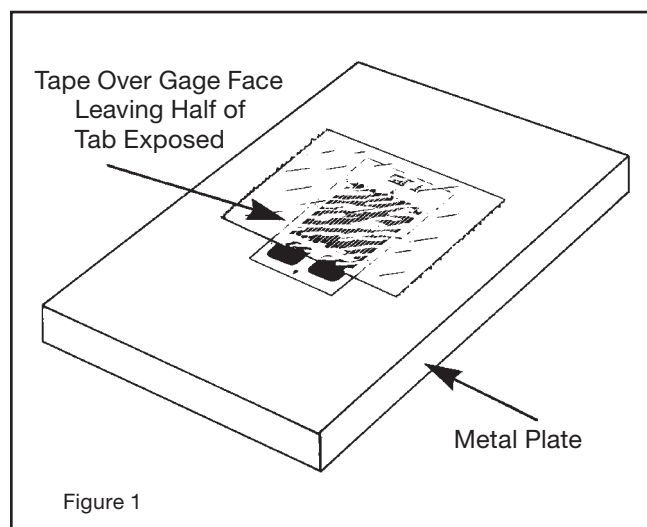

Figure 1
4. Press tape over gage and onto work surface (Figure 1). If the gage does not have good thermal contact with the surface, a weight can be applied to hold gage in place.